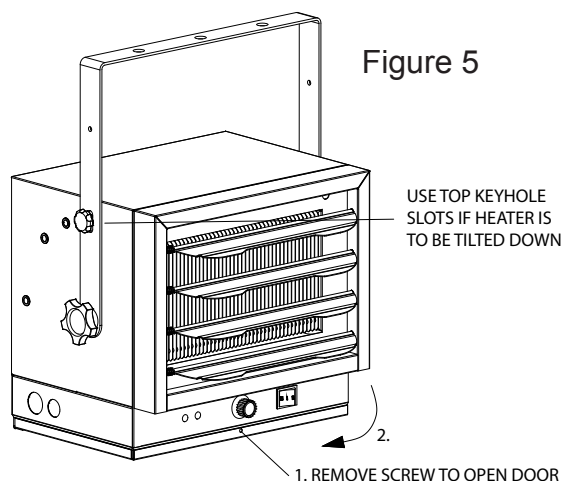

Figure 5
4. If the heater is to be tilted it must be positioned in the keyhole slots - see figure 5.
2. To tilt the unit vertically, loosen the bracket screws (see Figure 5).
2. To tilt the unit vertically, loosen the bracket screws (see Figure 5 on page 6).